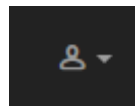

Figure 10. Partner Portal (Profile icon)
3. Hover the mouse cursor over the Profile icon in the upper right-hand corner of the web page (Figure 10 \(page 38\)). Click the **Account** option.